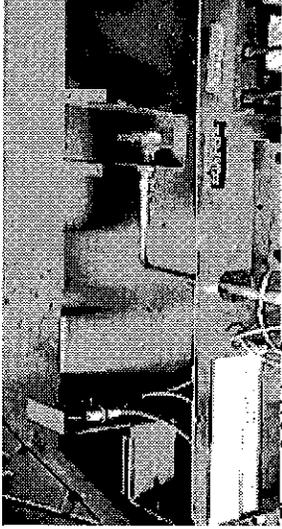

Figure 3.6 Valve Compartment
- The valve compartment will look like that in Figure 3.6 with the hearth pan removed.